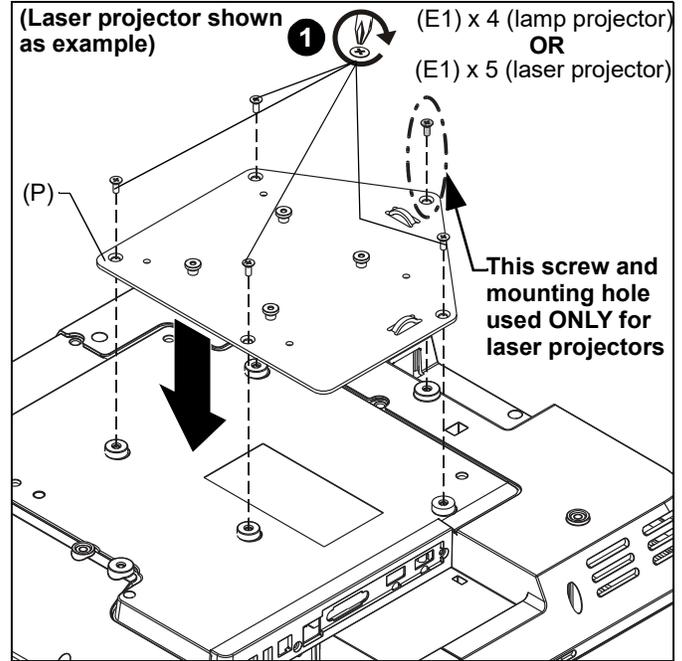

Figure 7
- Attach adapter plate (P) to projector using the correct number of fasteners for the type of projector. (See Figure 7)